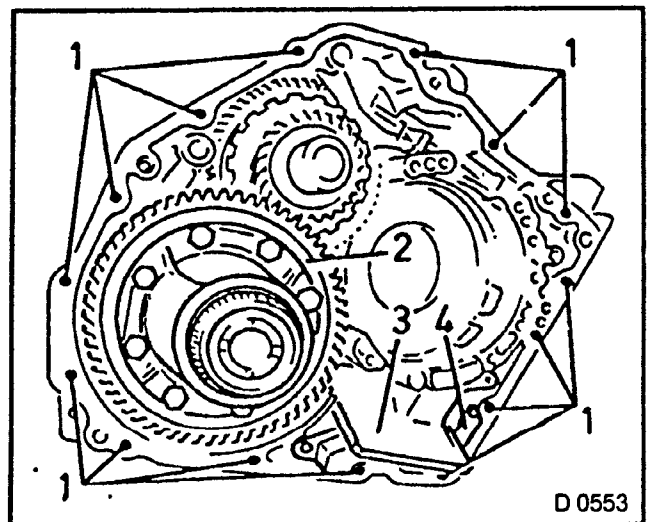

Fig. 513
1. Differential in main housing (Fig. 513, Item 2).